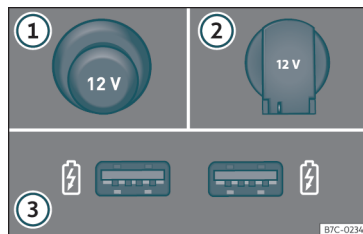

Fig. 120 Vehicle 12 volt socket.
12 volt power socket »» **Fig. 120**:
- Remove the cover from the socket, located on the centre console »» **Fig. 120** ①.
- Lift the power socket cover »» **Fig. 120** ②.
These USB ports are located at the rear of the console, between the front seats »» **Fig. 120** ③. These connectors can work at a maximum power of up to 10.5 W per port.